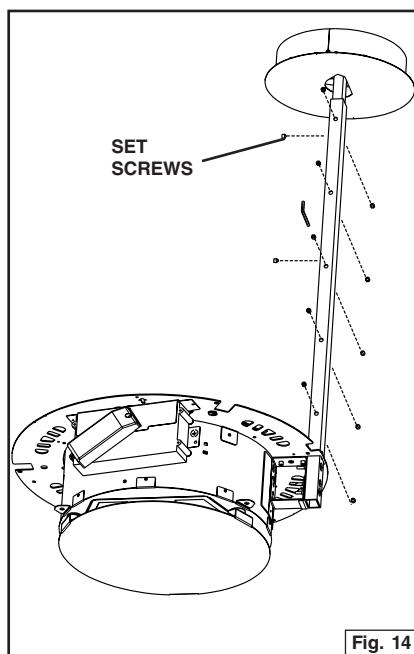

Fig. 14
6. Install the lower support arm onto the upper arm at the desired mounting height. Tighten the set screws making sure at least (5) screws are in contact with the upper arm. Fig. 14. Repeat for the second unit.